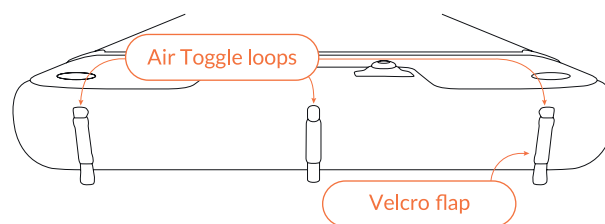

Fig 92 - Undo the Velcro flap to release the Air Toggle loops
6. From a kneeling position ensure that the vertical Air Toggle loops are unfastened in the required locations on both Platforms by releasing the Velcro flaps (Fig 92).